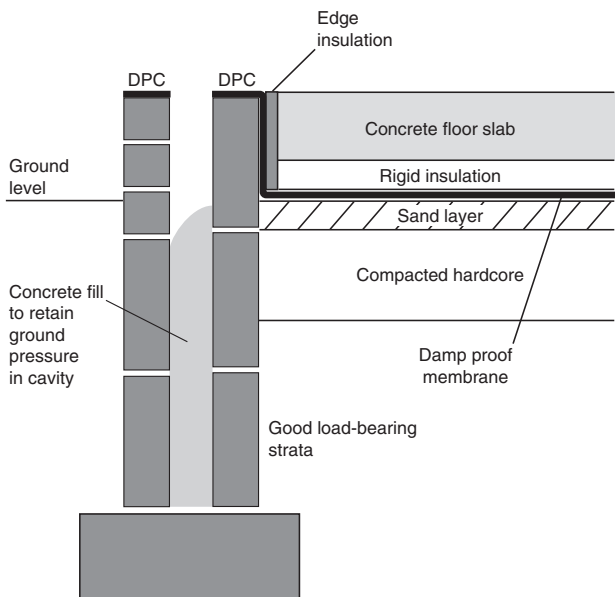

Figure 4.6 Foundation construction to ground floor slab.
- 1 A thin (25-mm) layer of sand, called a *blinding layer*, is placed on top of the compacted hardcore. The purpose of this is to ensure that the damp proof membrane under the concrete floor slab (see Figure 4.6) cannot be punctured by any sharp bits of hardcore.
Figure 4.6 shows the insulation under the concrete slab. In some designs insulation is placed between the slab and the floor screed, in which case the screed should be a minimum of 65 mm.